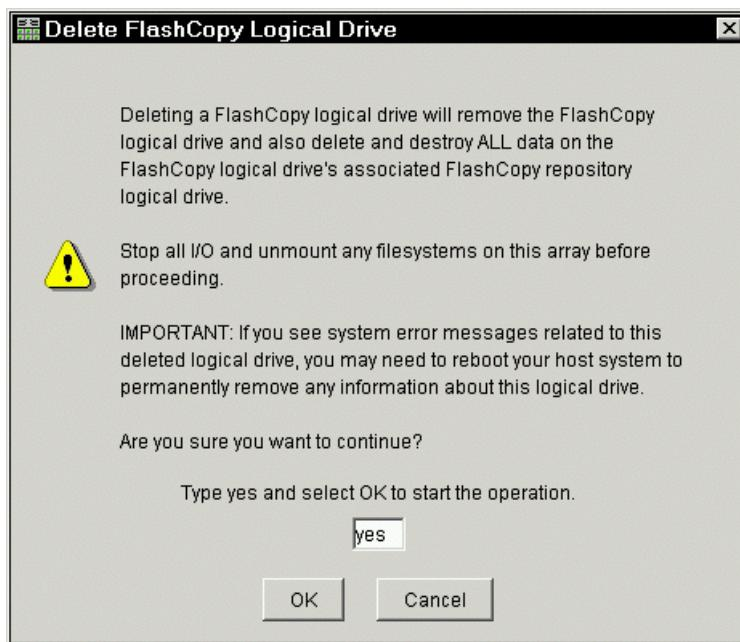

Figure 5-32 Delete FlashCopy Logical Drive dialog
- The Delete FlashCopy Logical Drive dialog opens as shown in Figure 5-32. Type Yes and click OK.